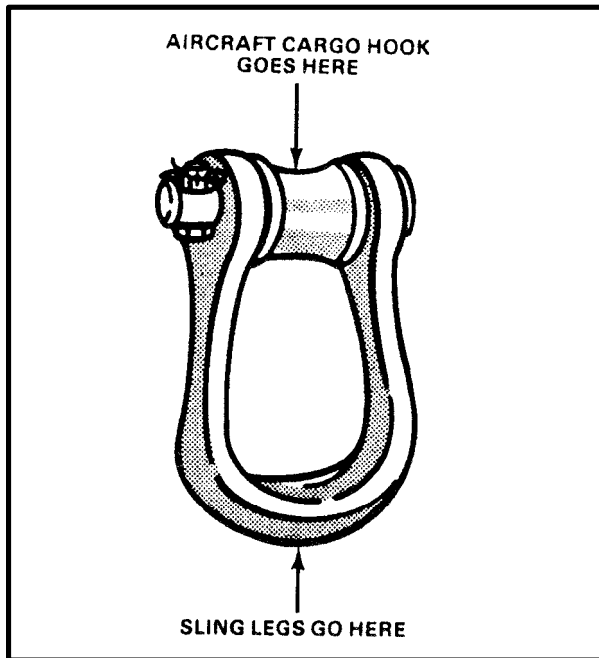

Figure 6-2. Apex Fitting Components
**a. Apex Fitting.** The metal apex fitting (Figure 6-2) gathers the sling legs and attaches the sling set to the helicopter hook. Each apex fitting consists of a clevis, pin, spacer, and castellated nut and cotter pin. The 10,000-pound capacity clevis is made of aluminum and uses a 1 1/8-inch diameter pin. The 25,000-pound capacity clevis is made of alloy steel and is fitted with a 1 1/2-inch diameter pin.